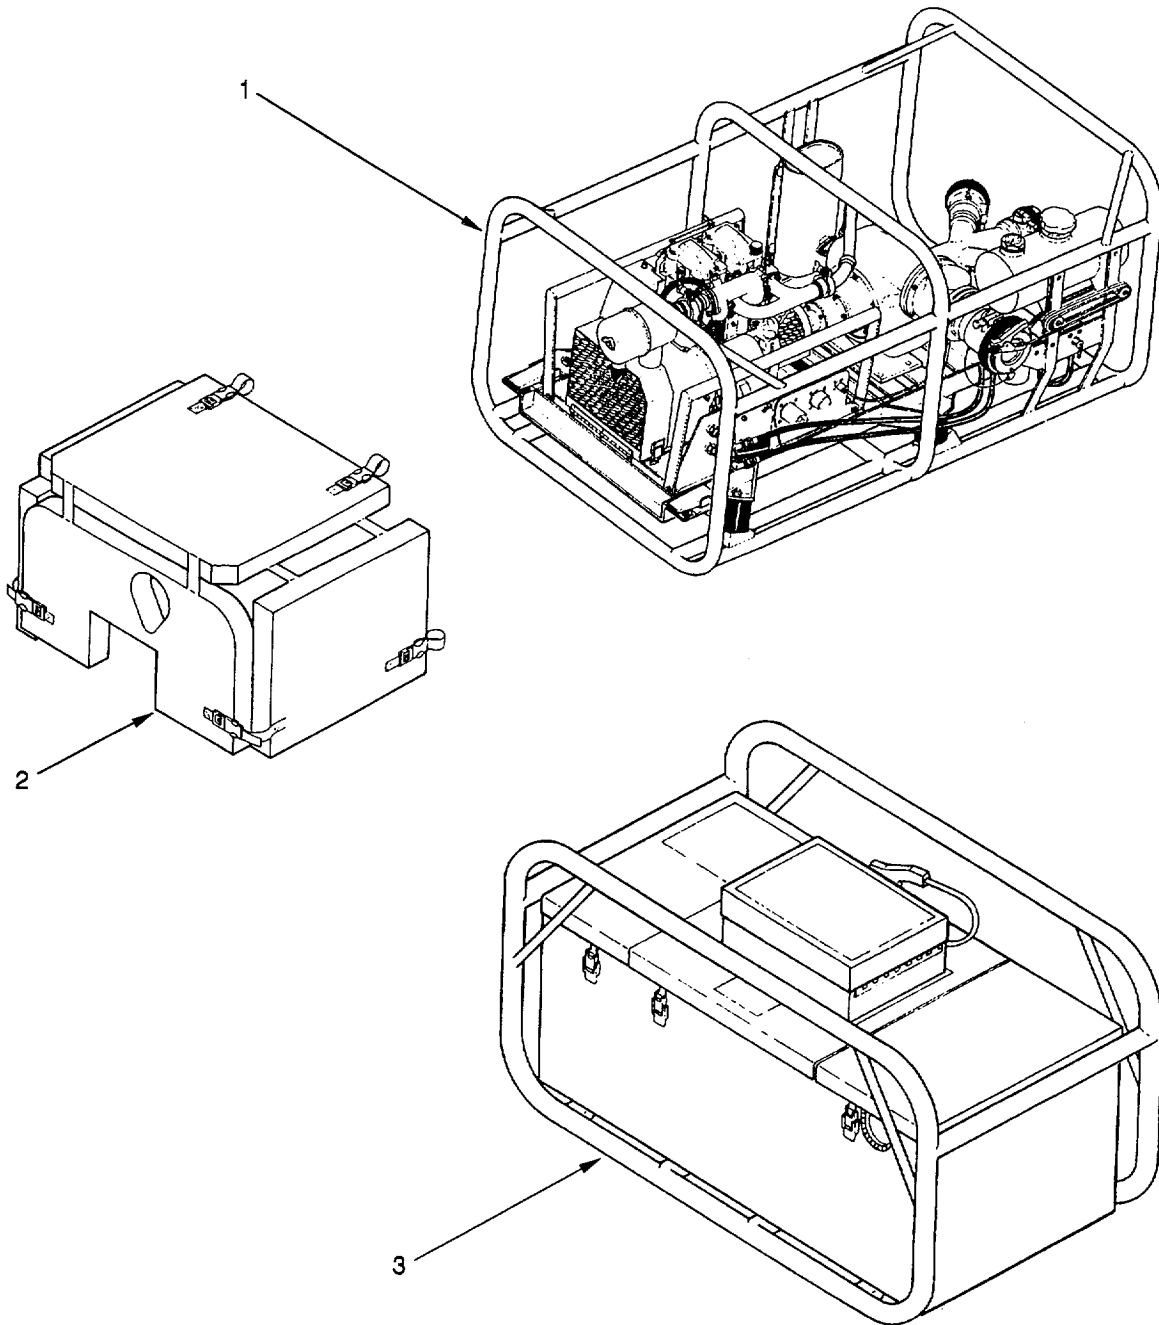

Figure 1-1. Pumping Assembly, Advanced Aviation Forward Area Refueling System
1.8 CHARACTERISTICS, CAPABILITIES AND FEATURES. (Refer to figure 1-1.)
The Pumping Assembly, illustrated in figure 1-1, consists of the Pump-Engine module, the Accessory module and interconnecting cables.